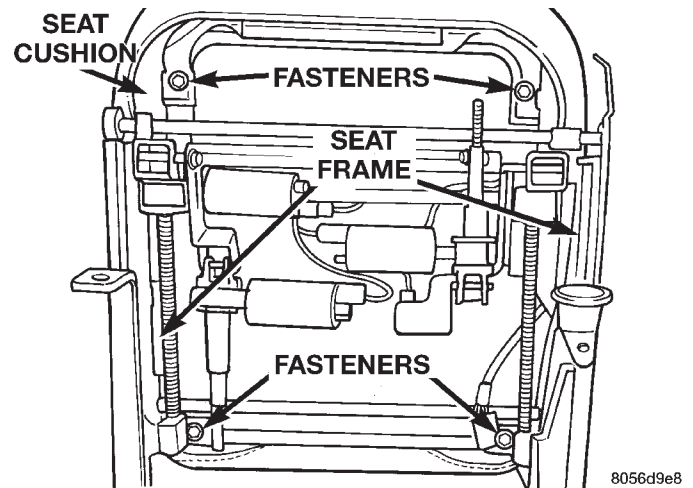

Fig. 4 Front Seat Cushion
- (1) Remove seat from vehicle. Refer to procedures found in this section.
- (2) Invert seat on a suitable work surface.
- (3) Remove fasteners holding seat cushion assembly to seat adjusters (Fig. 4).
- (4) Separate seat cushion assembly from seat adjusters.